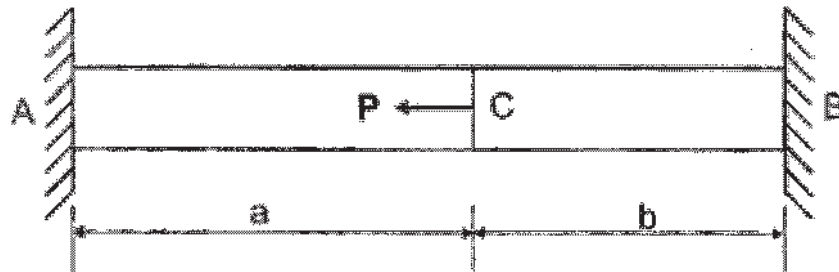

Fig. 1
- Q. 3. Determine the reaction at the supports A and B of a bar supported at both ends by the fixed support. The bar is loaded with axial force P, which acts at an intermediate point C, as shown in Fig. 1. Assume $AE = \text{constant}$ throughout the length. 5